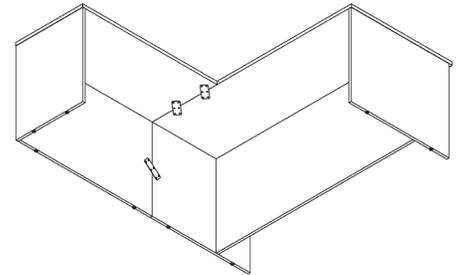

Figure 4: Attaching Flat brackets
Step 6: Use wood screws to attach flat bracket to the inside seam of the desk return (figure 4).